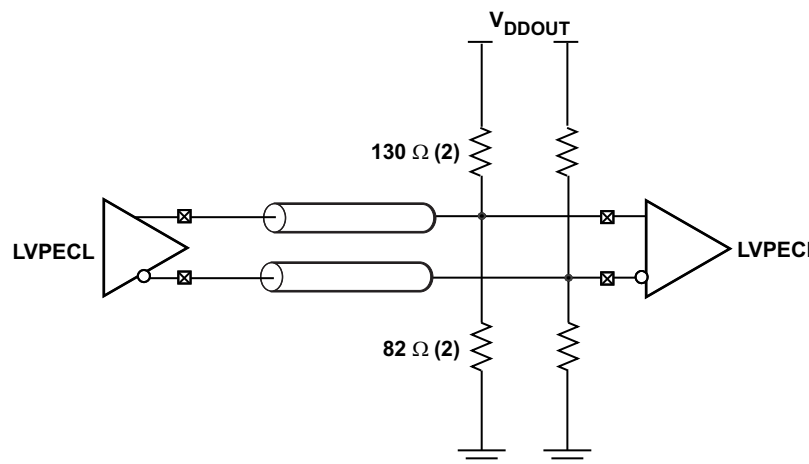
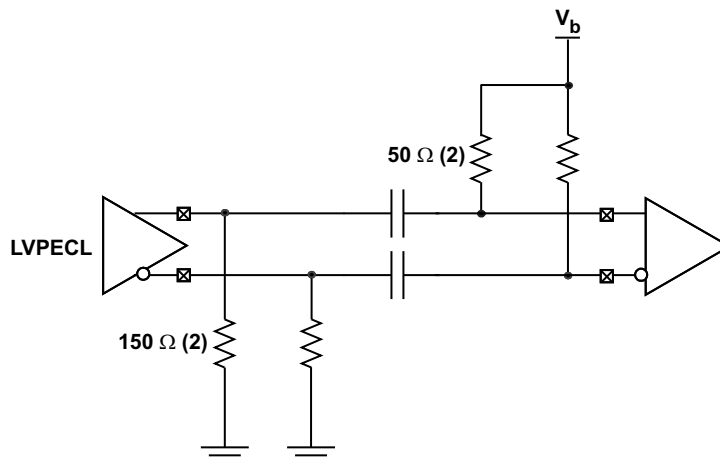

Figure 11. LVPECL Output Termination (DC-Coupled)
Figure 12. LVPECL Output Termination (AC-Coupled)
The CDCM9102 is an open emitter for LVPECL outputs. Therefore, proper biasing and termination is required to ensure correct operation of the device and to optimize signal integrity. The proper termination for LVPECL is 50 Ω to (V_{cc}-2) V but this DC voltage is not readily available on a board. Thus a Thevenin's equivalent circuit is worked out for the LVPECL termination in both direct-coupled (DC) and AC-coupled cases, as shown in Figure 11 and Figure 12. TI recommends placing all resistive components close to either the driver end or the receiver end. If the supply voltages of the driver and receiver are different, AC coupling is required.